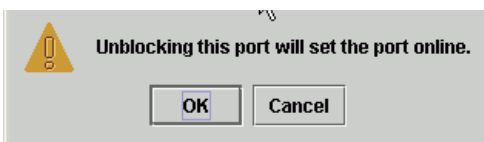

Figure 4-27 Unblocking Port Warning Box
1. Select the *Block Port* menu option. Note the check mark in the box adjacent to the menu item, indicating the port is blocked. A *Warning* dialog box displays (Figure 4-27).